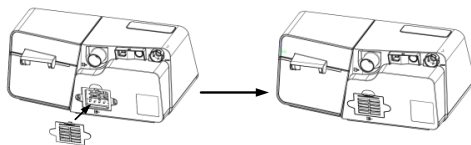

Fig. 18-5
- (2) Install the filter cap containing the air filter to the device, as shown in Fig. 18-5.